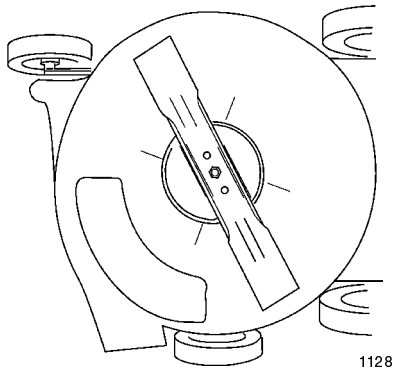

Figure 27
4. Tip the lawn mower onto its side (Fig. 27).